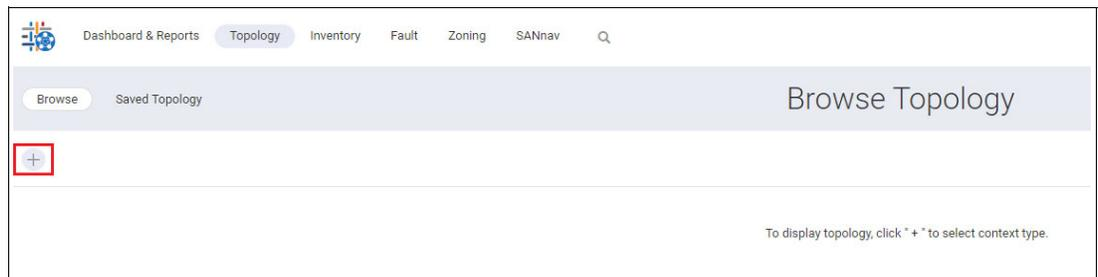

Figure 5-82 Viewing a topology
1. Click **Topology** in the navigation bar, and then click **+** to add a context (Figure 5-82).